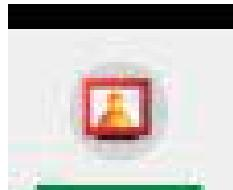

Figure 2-18. FactoryTalk View Station Icon
12. Close CCW by clicking the (X) in the top right-hand corner of the software.
- A. Click the FactoryTalk View Station icon in the taskbar to maximize the HMI window, similar to figure 2-18.